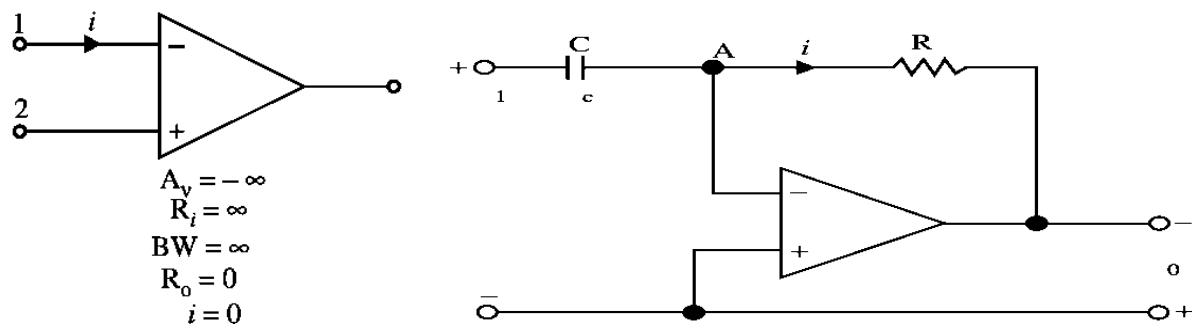

Figure 4-3. Characteristics of an Ideal OP-AMP and Circuit Diagram of an OP-AMP in Negative Feedback mode.
The specifications of *OP-AMP* under such condition are called open-loop specifications. An ideal *OP-AMP* (Figure 4-3) has the following characteristics :
1. infinite input resistance means that input current $i = 0$ as indicated in Figure 4-3. It means that an ideal *OP-AMP* is a voltage-controlled device.